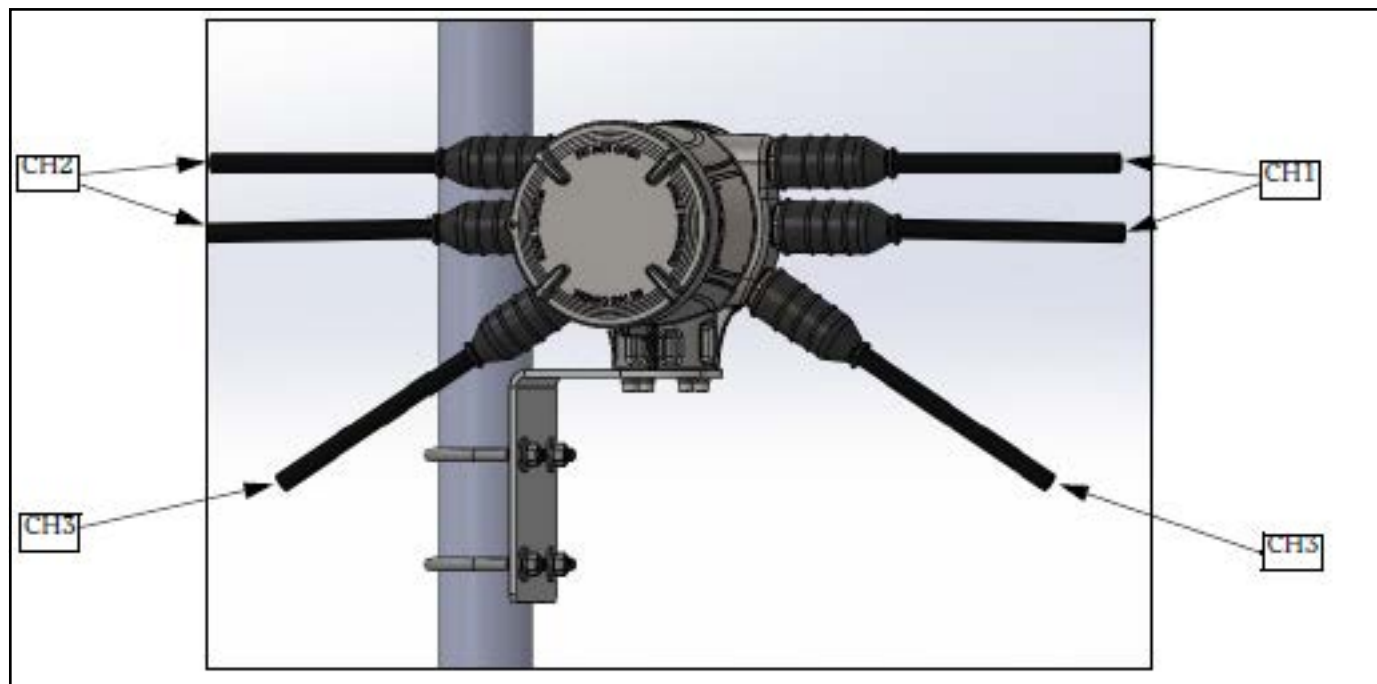

Figure 30: XMT1000, 3 Channel Junction Box
- Thread one end of transducer cables into 3 channel junction box as shown in *Figure 30*. (Cable locations in *Figure 30* are for reference only. Transducer cables can be placed in any orientation)